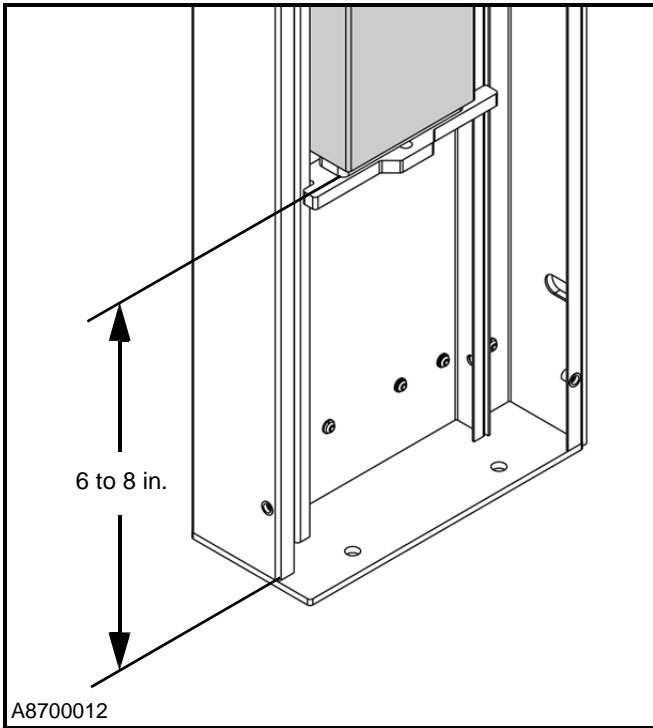

Figure 29
IMPORTANT: The 6 to 8 in. mounting height for each counterweight, as indicated in Figure 29, is adequate for most Turbo-Seal Insulated doors. However, for extra-wide or -short doors, the counterweights may have to be adjusted closer to the bottom of the side column.
5. Measure the distance between the bottom of each counterweight and the base of the side column. The distance between each counterweight and associated base plate should be 6 to 8 in. (See Figure 29)